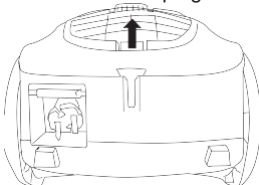

Figure 13 Removing the exhaust filter
3. Open the exhaust-filter cover by pulling on the lip on the cover. Remove the exhaust filter from the appliance, see Figure 13.